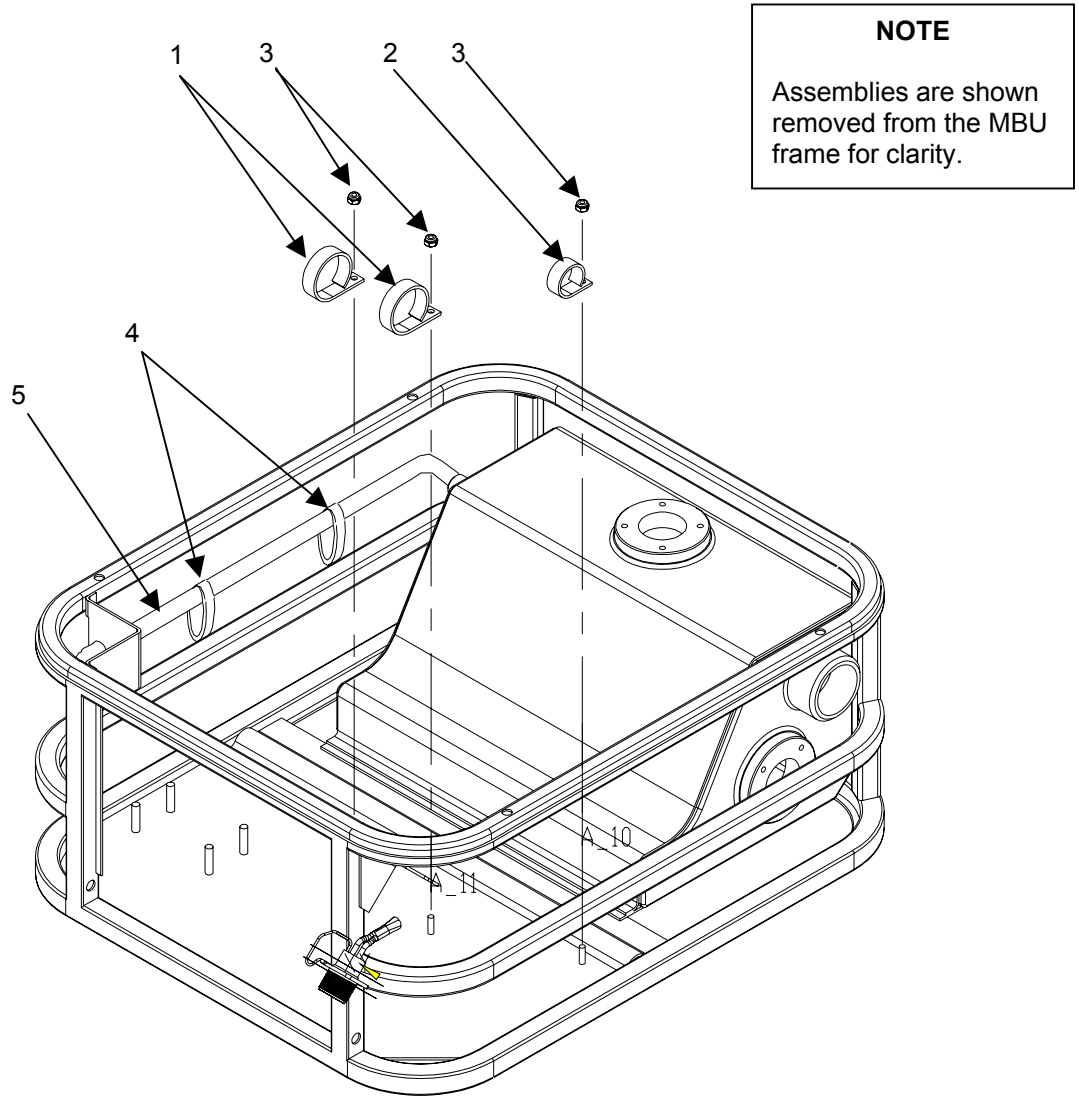

Figure 2. Replace Chassis Mounted Cable Clips and Hose Clamps
- a. Locate the three chassis mounted cable clips (**figure 2, item 1, figure 2, item 2**) on the bottom surface of the MBU. Take note that there are two sizes.
- b. Replace the chassis cable clips (**figure 2, item 1, figure 2, item 2**) by removing the cables/hoses retained by the strap.
- c. Remove the nut (**figure 2, item 3**) securing the cable clips to the chassis.
- d. Install a new cable clip in place on the threaded chassis stud and fasten with the nut (**figure 2, item 3**) removed earlier.
- e. Reinstall the hoses/cables inside the cable clip (**figure 2, item 1, figure 2, item 2**).
- a. Locate the two snap-it hose clamps (**figure 2, item 4**) that secure the hose and electrical wires to the copper fuel line (**figure 2, item 5**).
- b. Replace the fuel line cable clamp (**figure 2, item 4**) by removing the damaged clamp.
- c. Slide the replacement clamp (**figure 2, item 4**) over the fuel line, hose, and wire assembly.
- d. Engage the locking mechanism of the clamp (**figure 2, item 4**) so as to retain the hoses and cables securely without squeezing or otherwise deforming them.